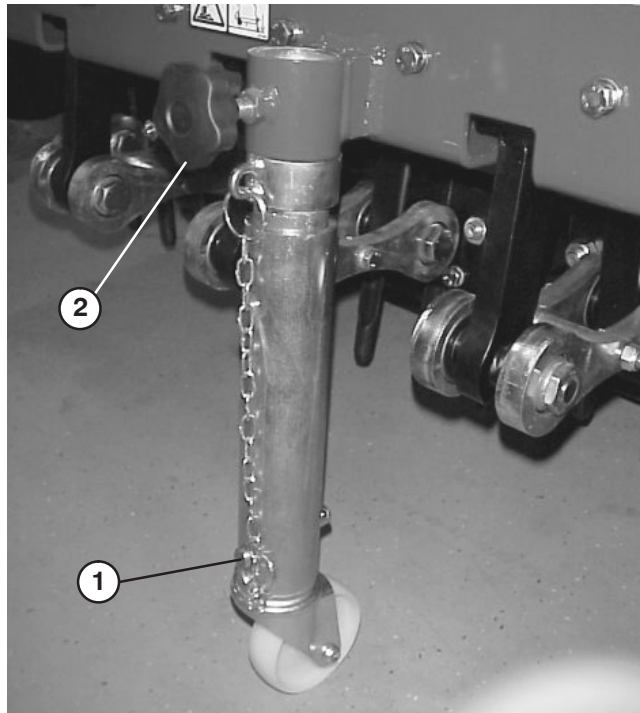

Figure 10
6. Secure castor/safety stand in desired position with pin (Fig. 10). Tighten castor knob.